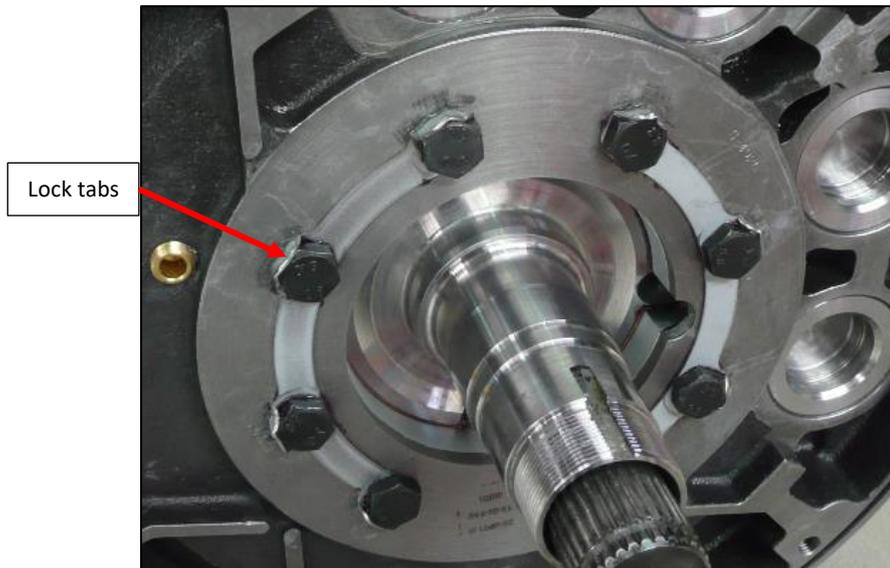

Fig. 35
13. Bend over the lock tabs to secure the 8x brake mounting bolts. See Fig. 35